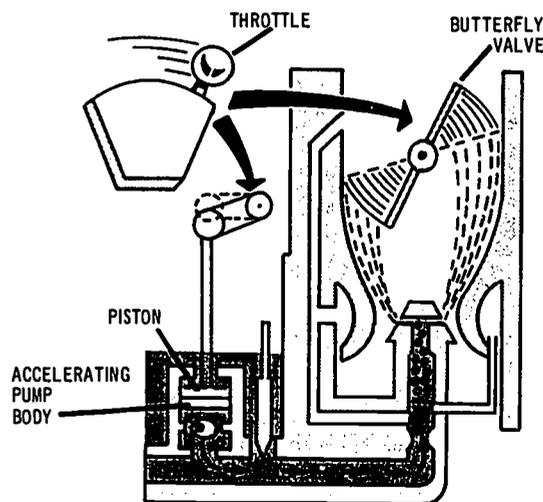

Figure 16. The Accelerating System.
*Accelerating systems.*—Most modern carburetors are equipped with an accelerating system. The accelerating system is designed to overcome the problem of temporary lean mixtures which occur when the throttle is suddenly thrown open. Normally, the fuel supply would require a short time to catch up with the increased amount of air flowing through the carburetor on sudden acceleration. The accelerating system overcomes that problem. It works either from a well or a pump. When the throttle valve suddenly opens, the accelerating system responds immediately by pushing more fuel through the discharge nozzle (Fig. 16).